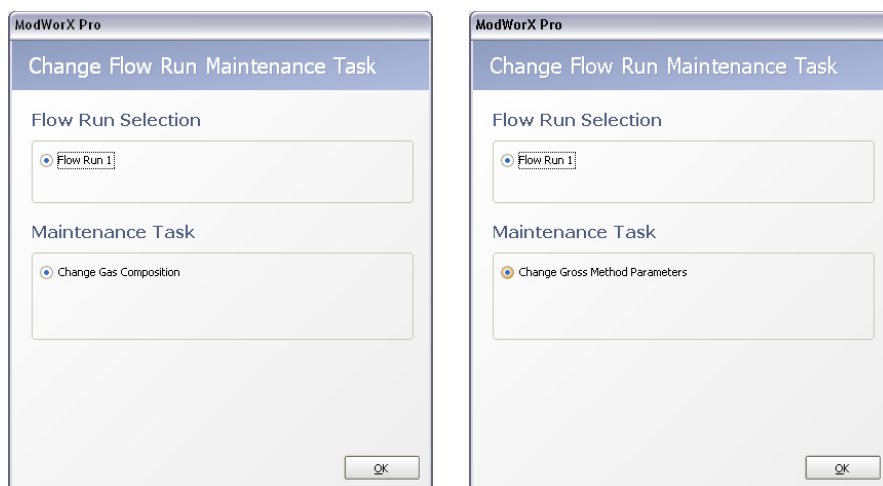

Figure 12.2
2. Click **Yes** at the Enter Maintenance Mode prompt. The Change Flow Run Maintenance Task screen will appear (Figure 12.2, page 176). The maintenance task displayed will vary, depending on the fluid property calculation method selected. For example, when calculating gas flow with the AGA-8 Detail method is used, the maintenance task will be “Change Gas Composition.” When the AGA-8 Gross method is used, the maintenance task will be “Change Gross Method Parameters.”
1. If Change Gas Composition is not displayed in the Maintenance Task field at the top of the Maintain Flow Run screen, click on **Change Task**. The Change Flow Run Maintenance Task dialog will appear (Figure 12.2, page 176).
1. If Change Gross Method Parameters is not displayed in the Maintenance Task field at the top of the Maintain Flow Run screen, click on **Change Task**. The Change Flow Run Maintenance Task dialog will appear (Figure 12.2, page 176).